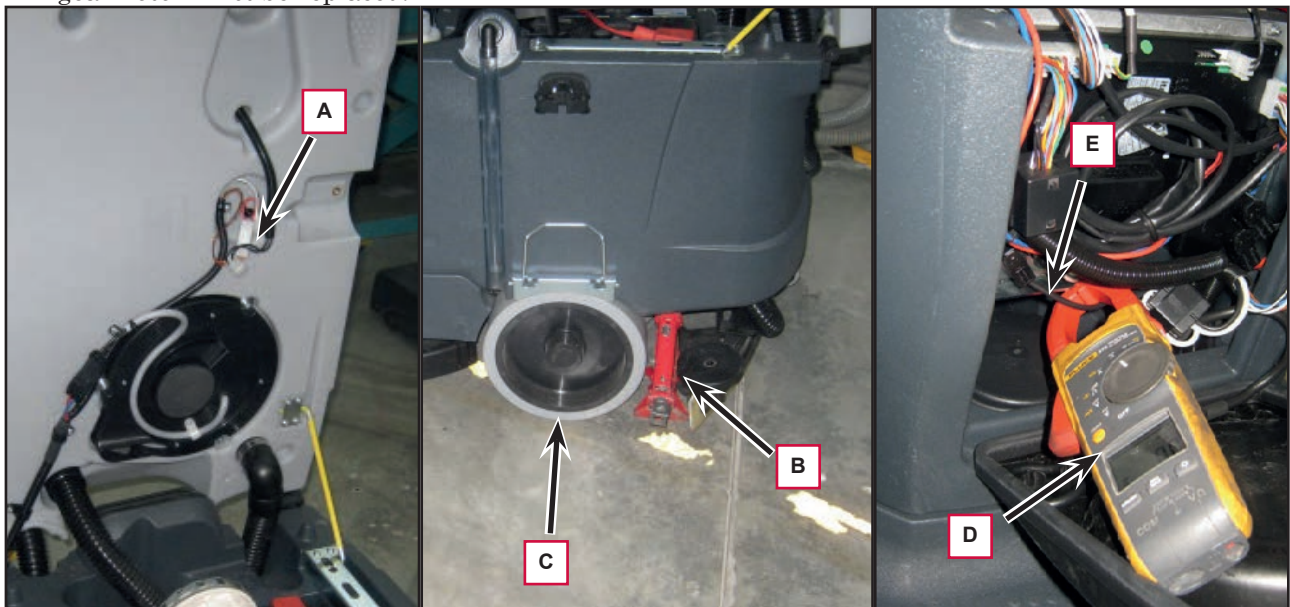

Figure 6
3. Apply a jumper wire (A, Figure 6) on the driver's seat sensor connector to disable the system.
5. Place a suitable lifting device (B) to raise one side of the machine approximately 2 cm from the floor (C) and allow one driving wheel to turn freely.
6. Apply the amp clamp (D) on one (black) cable (E) of the drive system motor wiring harness.
9. Switch off the machine and remove the amp clamp (D).